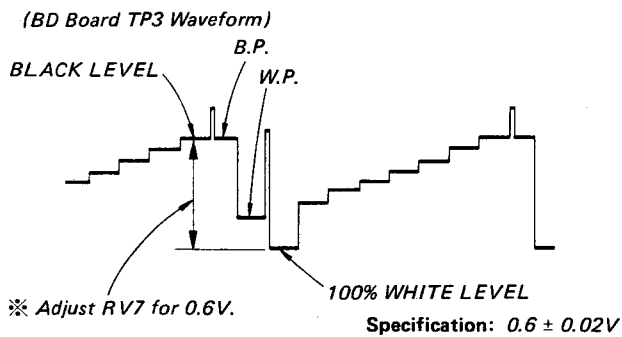

Fig. 5-135.
5. Adjust RV7 on the BC board so that both the black level and 100% white level may be 0.6V respectively. (See Fig. 5-135.)